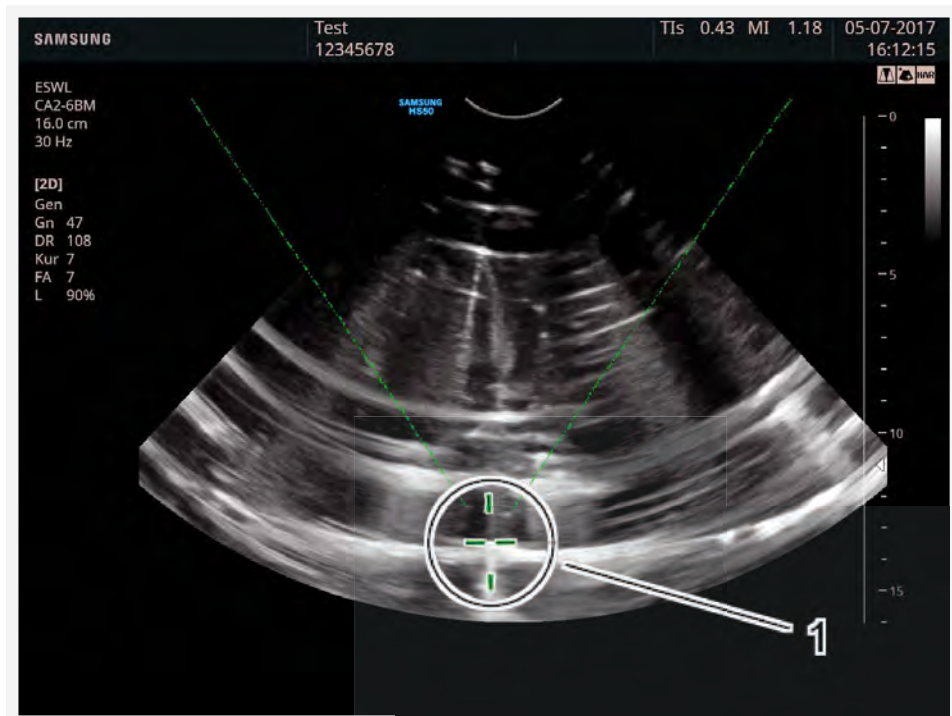

Fig. 12-6 Transducer at lowest position
- Press  and move the ultrasound transducer to the lowest position (the default position once the in-line unit has been inserted) and rotate it manually about its axis until the reflection mark is clearly visible in the ultrasound image (**FIG. 12-6**).